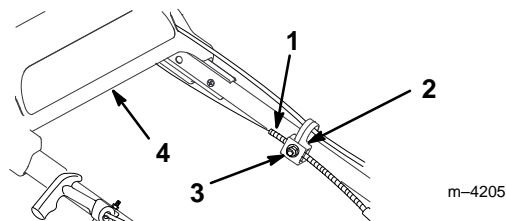

Figure 23
3. Loosen the cable support nut (Fig. 23).
5. With the upper handle pulled and held back as far as possible and while holding the drive bracket down, pull the cable jacket down (toward the lawn mower) to remove all the slack in the cable (Fig. 23).
6. Tighten the nut on the cable support (Fig. 23).